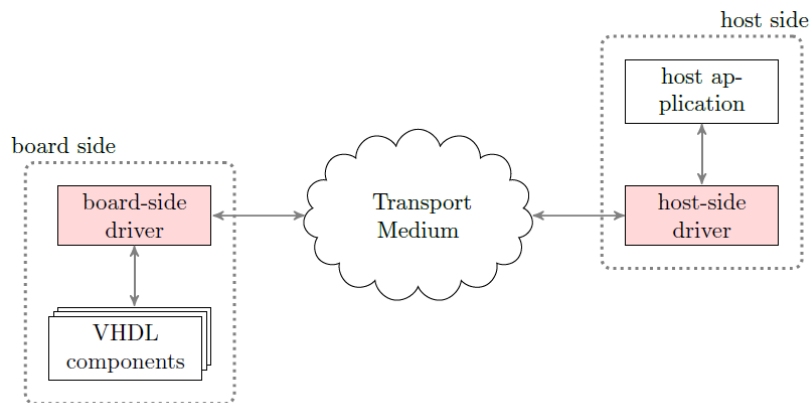

Figure 1: A high-level view of the data flow from a host application to hardware components on the board through the generated driver
1) **Short Introduction.** The board-side driver running on FPGA and host-side driver together with client application running on the server are intended to be used for communication purposes between computer and board, in order to send/receive data over medium. Therefore, the following system in the Figure 1 will be used as a reference for this documentation.